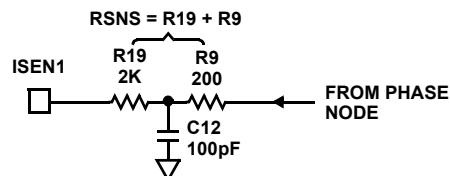

FIGURE 10. NOISE FILTER FOR ISEN1 INPUT
5. A 'T' filter consisting of a 'split' RSNS and a small, $100pF$, capacitor as shown in Figure 10, may be helpful in reducing noise coupling into the ISEN input. For example, if the calculated value of RSNS1 is $2.2k\Omega$, dividing it as shown with a $100pF$ capacitor provides filtering without changing the current limit set point. For any calculated value of RSNS, keep the value of the R9 portion to approximately 200Ω , and the remainder of the resistance in the R19 position. The 200Ω resistor and $100pF$ capacitor provide effective filtering for noise above 8MHz.